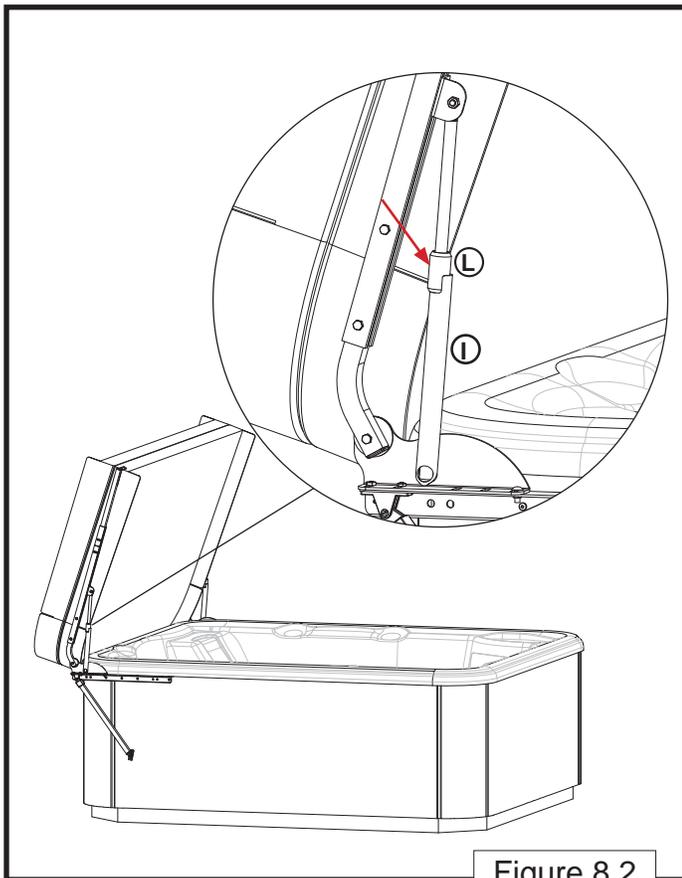

Figure 8.2
When the cover is open in the vertical position, the Sure-Lock Sleeve will slide down the Gas Spring (F) and rest on the top of the Gas Spring Lock (I) in a locking position (Figure 8.2).